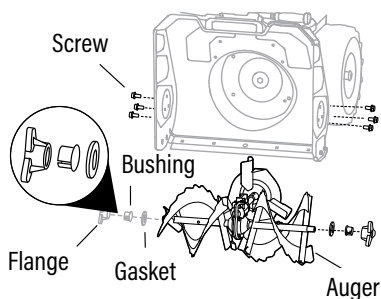

Fig. 18A
1. Remove the three screws on both left and right of the auger housing. (Fig. 18A)
2. Remove the auger, together with the gearbox as a whole set from the housing. Then remove the flange, bushing, and gasket from the auger shaft. (Fig. 18A)